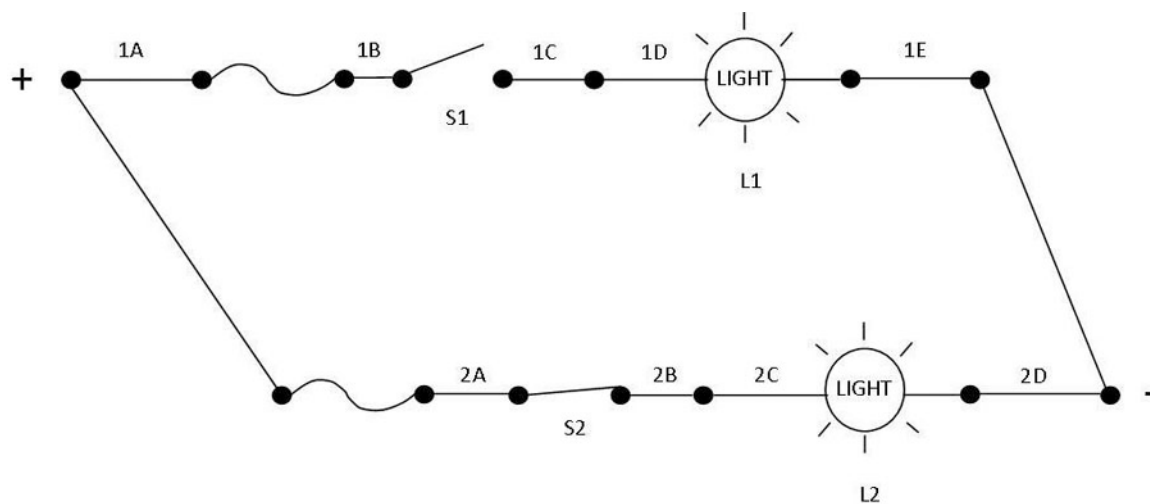

Figure 2-16. Cross short.
Symptoms—The symptoms of a cross short are: (1) two or more independent circuits operate from one control device, and (2) the protective device may or may not actuate, depending on the current rating of each circuit (fig. 2-16).